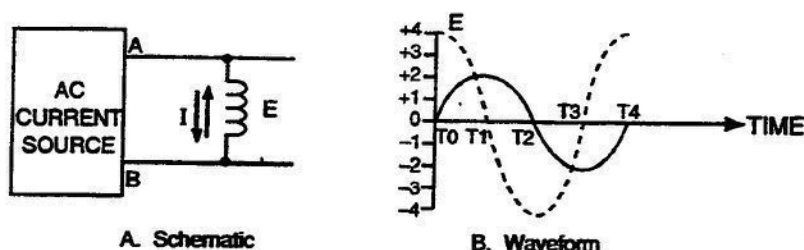

Figure 2-64. Inductor with a sine wave applied.
**Inductors connected to an alternating current source.** In figure 2-64, we show an inductor (coil) connected to an AC source. The graph shows the relationship that exists between the current (I) and the voltage (E) developed across an inductor with respect to time. The solid line of the graph represents the current across the inductor and the dotted line represents the voltage across the inductor. This voltage is actually a CEMF developed as the current's magnetic field expands and collapses. At time T0, the initial rate of change is maximum and the voltage is maximum. As the rate of change of current gradually decreases, from T0 to T1, the induced voltage decreases. At T1, the current stops increasing. At that time, we have zero rate of change and the induced voltage is zero. As the current flow decreases (T1 to T2), its magnetic field collapses and the polarity of the voltage induced across the inductor reverses. Notice that at T1, with zero rate of change,  $E = 0$ . As the rate of change of current increases to maximum at T2, where even the direction of current flow changes,  $E = \text{maximum}$  with reversed polarity from T0 (-4 units).